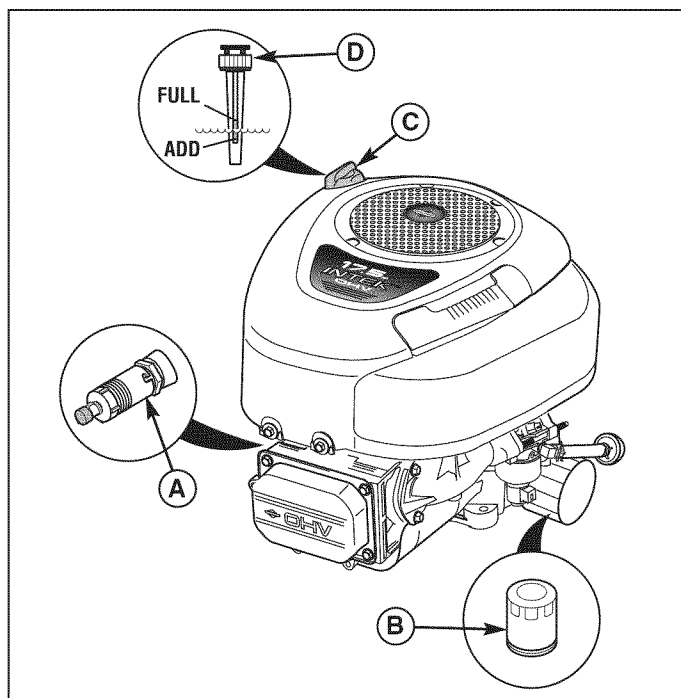
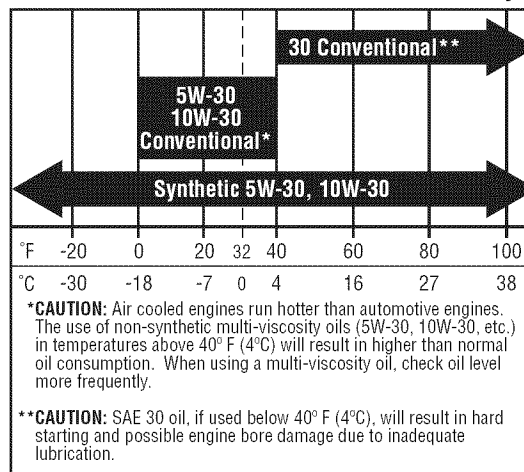

Figure 22. Briggs & Stratton single cylinder Models
Figure 25. Recommended Engine Oil - Briggs & Stratton Models
2. Clean the area around the dip stick (C, Figure 22 or 23).
3. Remove the dip stick (C) and clean it with a paper towel.
4. Insert the dip stick (C) back into the engine. **Briggs & Stratton Models**, thread the cap back onto the tube. **Kohler Models**, push cap (C) firmly into place.
5. Remove the dip stick and read the oil level. The oil level should be between the "FULL" and "ADD" marks (D). If not, add oil according to the oil recommendations chart (Figure 25).
1. Place a suitable container with a 4 quart capacity under the oil drain valve (A, Figure 22 or 23).
2. Loosen or remove the dip stick (C, Figure 22 or 23).
1. Clean the area around the dip stick (C, Figure 22 or 23) and oil drain valve (A).
3. Remove the oil filter (B). Discard the filter.